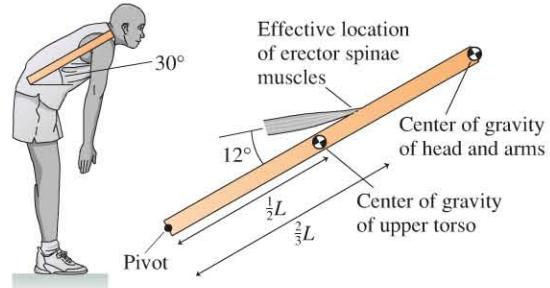

FIGURE P8.39
39. When you bend over, a series of large muscles, the erector spinae, pull on your spine to hold you up. Figure P8.39 shows a simplified model of the spine as a rod of length L that pivots at its lower end. In this model, the center of gravity of the 320 N weight of the upper torso is at the center of the spine. The 160 N weight of the head and arms acts at the top of the spine. The erector spinae muscles are modeled as a single muscle that acts at an 12° angle to the spine. Suppose the
person in Figure P8.39 bends over to an angle of 30° from the horizontal.